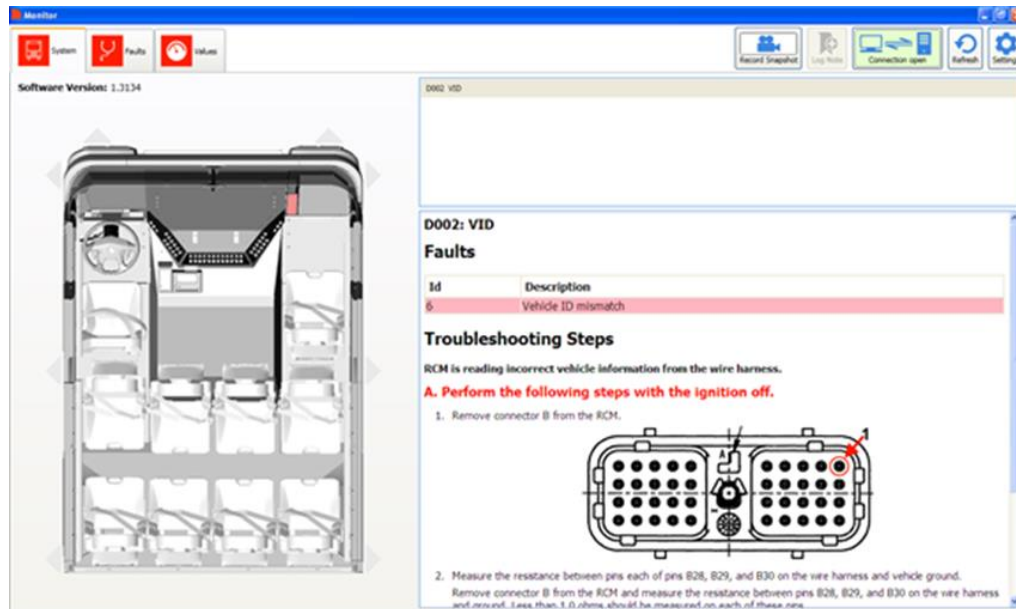

Figure 8.1
19. The screen in *figure 8.1* shows an example of a unit with a fault, which will require troubleshooting. The RCM item is illuminated on the cab diagram below and there are fault codes on the upper right field. Troubleshooting steps will be identified in the lower right field of the software.